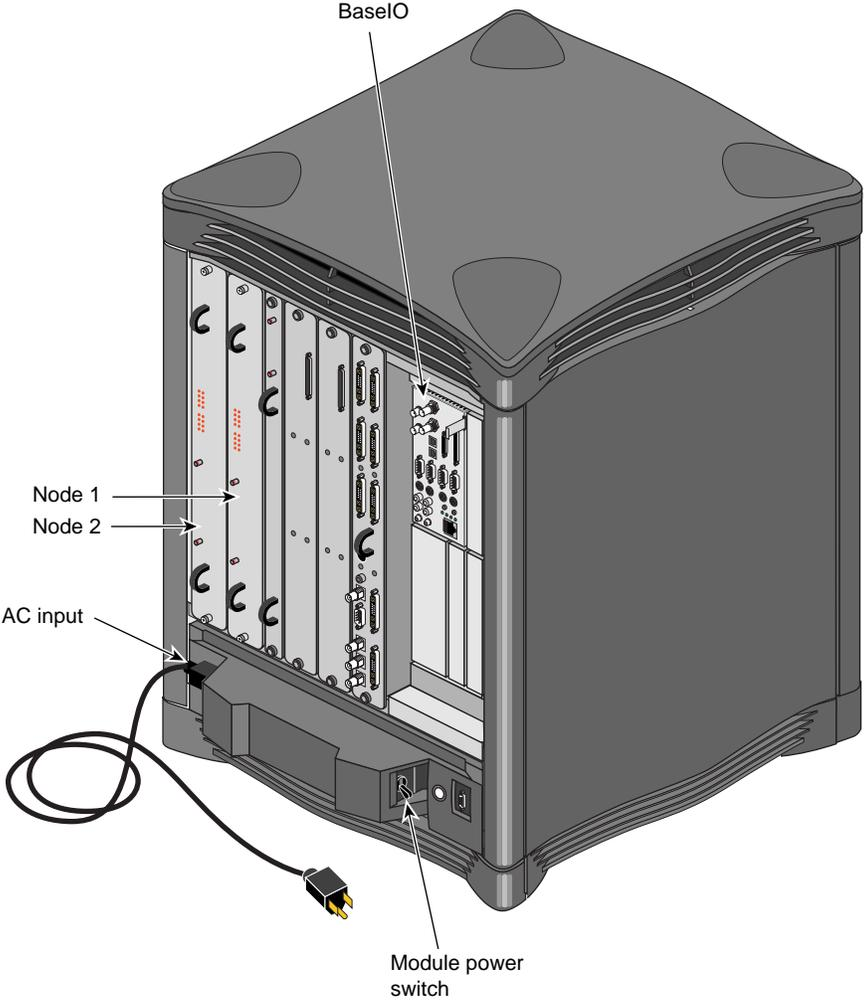

Figure 2-8 Components and Controls on the Back
- system Node board(s); see Figure 2-8
The system's main power connector is located on the lower left side of the chassis. The main system power switch is located opposite it on the lower right side. System power is On when the switch is up and Off when it is down (see Figure 2-8).